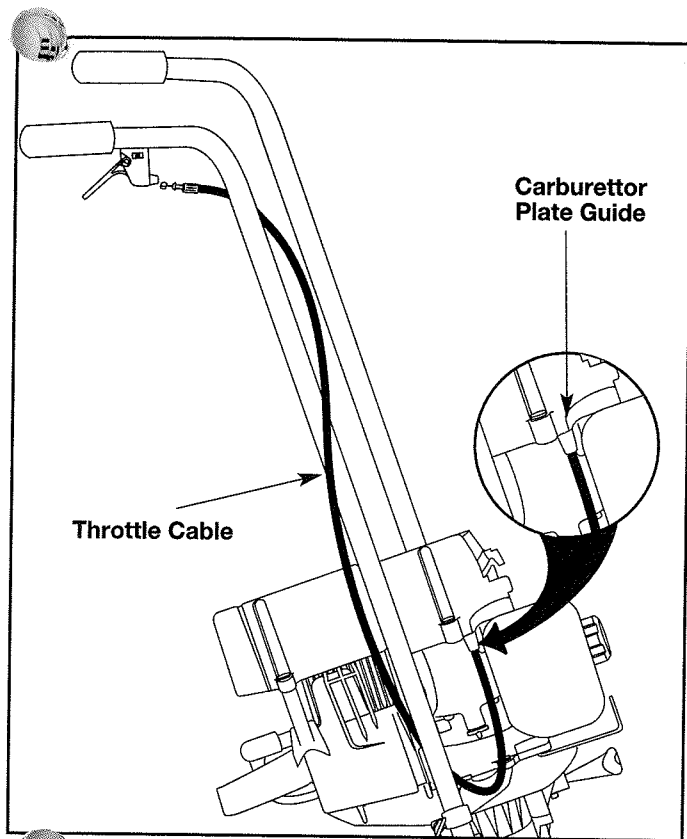

Fig. 8
1. Wrap the throttle cable once around the handlebar (Fig. 8).
**NOTE:** Ensure the throttle cable is fitting into the guide at the carburettor plate on the engine. If it does not, the throttle will not work properly (Fig. 8).